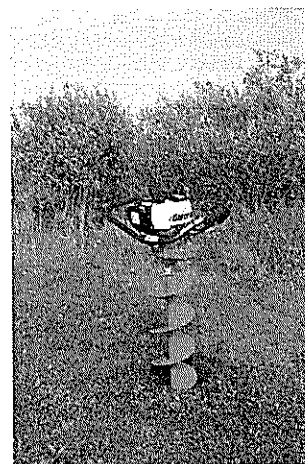

FIGURE 24
- a. Dig shallow hole and leave Hole Digger connected to auger. FIGURE 24